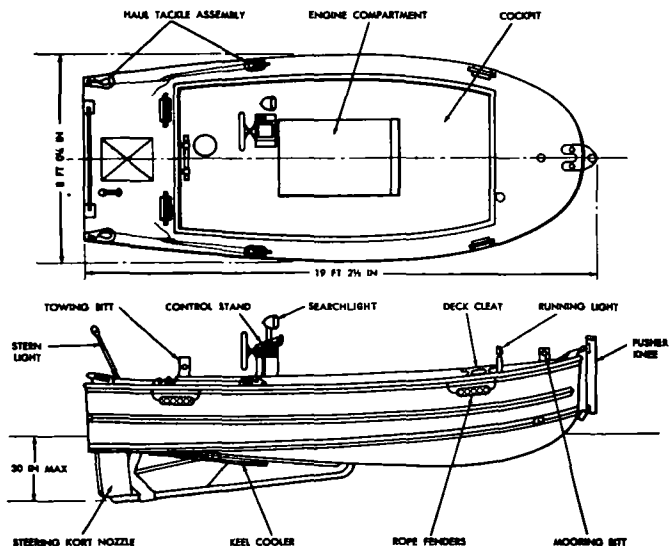

Figure 228. Design features, 19-foot bridge erection boat.
a. Design. The 19-foot bridge erection boat (fig. 228) is designed to assist in the assembly of tactical rafts. Only trained operators should operate the boat.